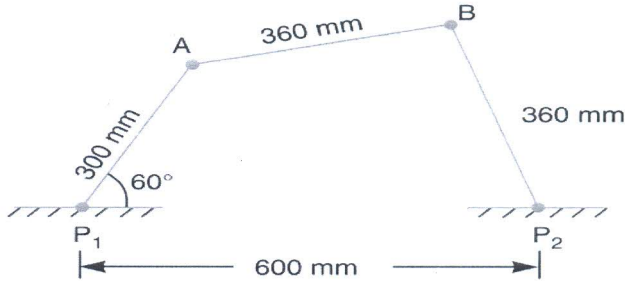

Figure 1
3. The dimensions and configuration of the four bar mechanism, shown in Figure 1, are as follows: $P_1A=300$ mm; $P_2B = 360$ mm; $AB = 360$ mm, and $P_1P_2 = 600$ mm. The angle $AP_1P_2 = 60^\circ$. The crank P_1A has an angular velocity of 10 rad/s and an angular acceleration of 30 rad/s^2 , both clockwise. Determine the angular